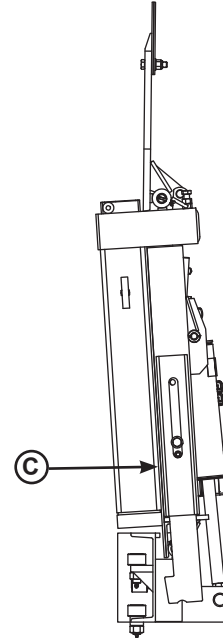

Figure 28
When maintenance is to be performed on the dock leveler, place the maintenance props (C) in their service/down position with hardware fully secured. See Figure 28. The lip may fold down if the platform has rested on the maintenance props.